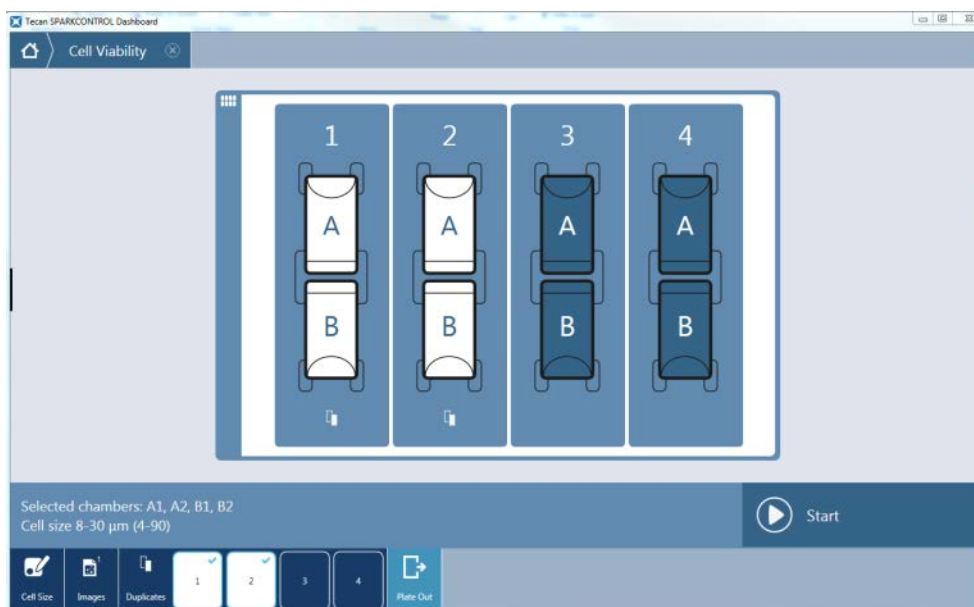

Figure 111: Cell Viability start window
1. Select the **Cell Viability** application tile and the start window appears (Figure 111: Cell Viability start window).